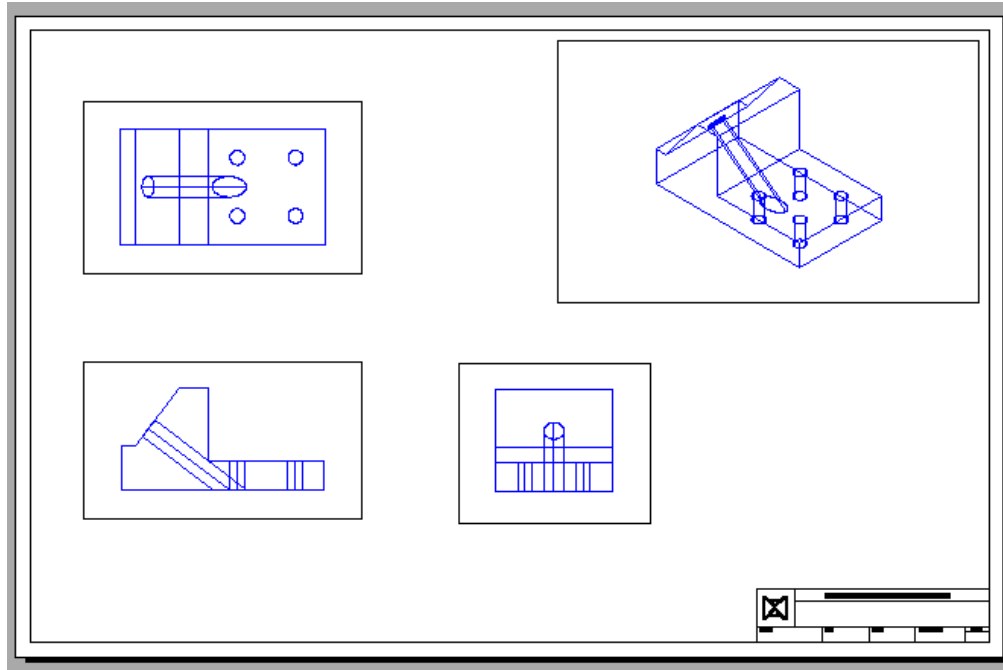

Figure Step 12
Step 12 Use the MVIEW command to create a viewport in the top right corner of the drawing. Change the scale of the viewport to 1:1 and the current view to SE Isometric. Pan the model in the viewport to center it. (Figure Step 12)